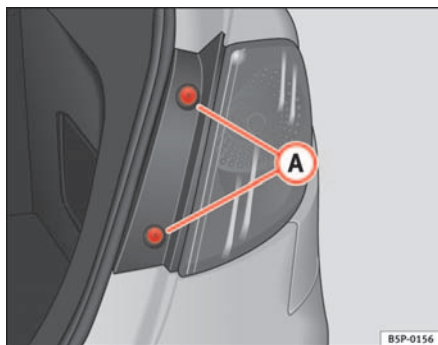

Fig. 188 Side lights and brake lights
- Remove the bolts ⇒ fig. 188 (A).